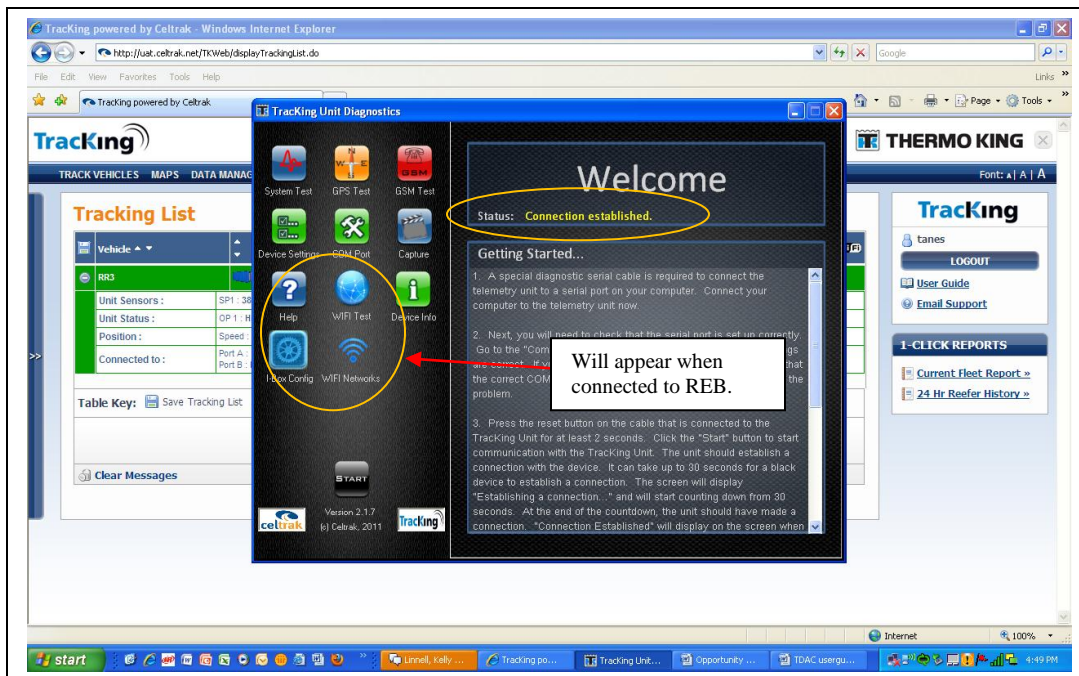

Figure 4
g. The status will change to “Connection established” once the TDAC has successful connection to REB. The TDAC screen display will change- adding more icons for you to configure REB with Wi-Fi settings . See Figure 4